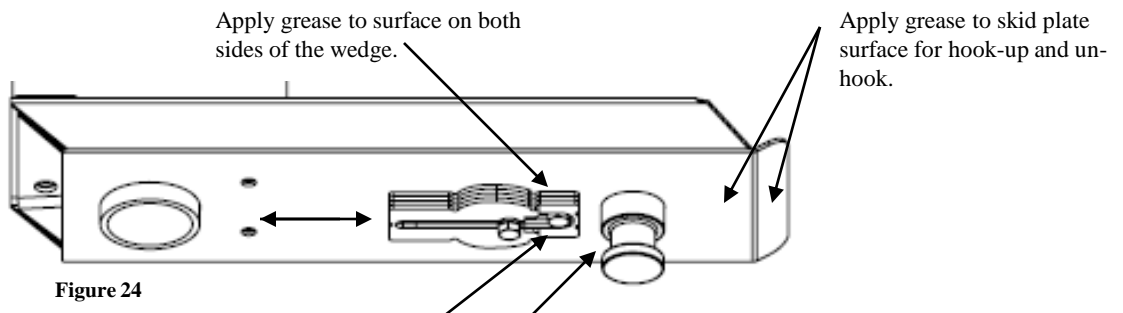

Figure 24
4. Apply grease to the surface on both sides of the wedge, the back side of the pin, and the skid plate surface as shown in figure 24. **For Signature Series Fifth Wheel Heads, lubricate the area where the jaw passes under the wedge.*